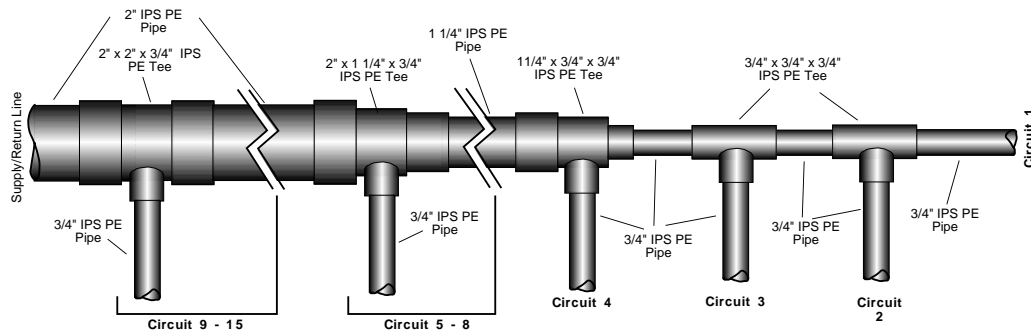
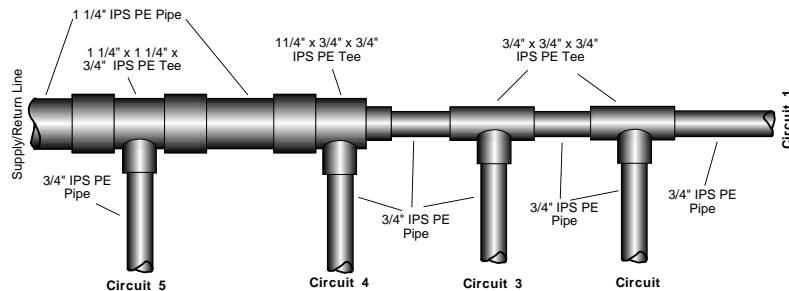

Figure 11A - Typical Header through 15 tons
Figure 11B - Typical Header through 5 tons
**Header Design** - Headers for parallel loops should be designed with two factors in mind, the first is pressure drop and the second is flushability. The header shown in Figure 11A is a standard header design through 15 tons for polyethylene pipe with 2" supply and return runouts. The header shown in Figure 11B is a standard header